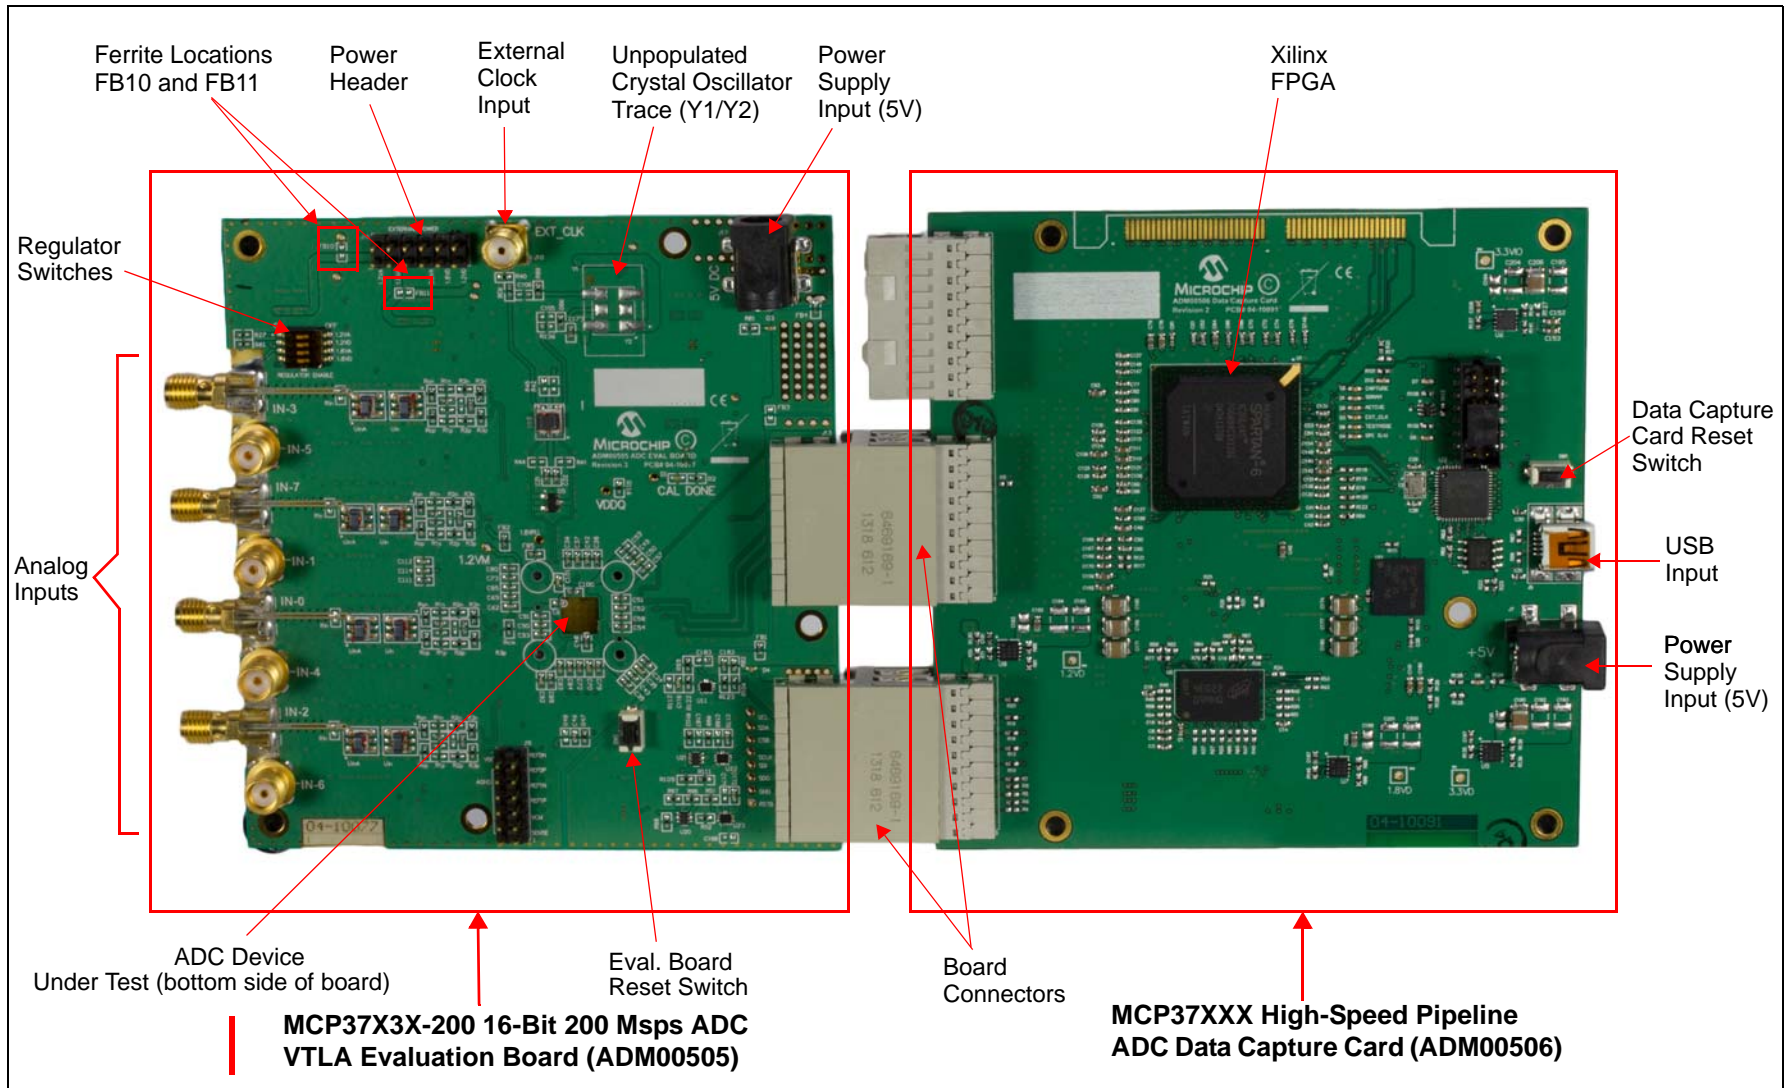

FIGURE 2-1: Evaluation Kit - The evaluation board connected to the data capture card.
1. Connect the evaluation board and the data capture card as shown in Figure 2-1.
This evaluation kit comes with two Mean Well wall-mountable switching power supplies (GS06U-1P1J), one for each of the boards. These power supplies are able to provide a 5V, 1A maximum output. They can be connected to an AC wall outlet rated between 90V AC and 264V AC, at a frequency of 47 Hz to 63 Hz. The other end of the power supply is a 2.1 mm barrel plug that connects to both the evaluation board and the data capture card (see Figure 2-1). If the user chooses to connect a different external power supply, a minimum output of 750 mA is required.
- A clean and low-jitter clock signal can be connected to the external clock SMA input (see Figure 2-1). For the signal generation, Rohde & Schwarz® SMA or Agilent Technologies HP8644B signal generators can be used. To ensure that a clean and low-jitter clock signal is provided, the user should interpose a band-pass filter to reduce the phase noise coming from the signal source. A TTE® Inc. KC4T-200M-10P-50-3A filter can be used with a 200 MHz clock signal.